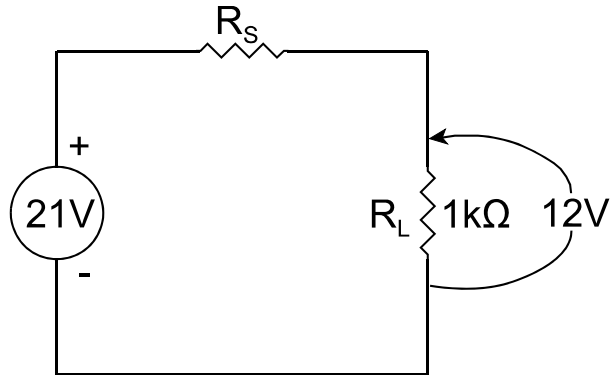

Figure 7-1
- A1. Design a series voltage divider to provide 12V to a 1kΩ resistor from a 21V supply as shown by Figure 7-1. Put your design values in Table 7-1.
- A2. Construct the circuit shown in Figure 7-1. You will have to use two resistors to make your design R_S .